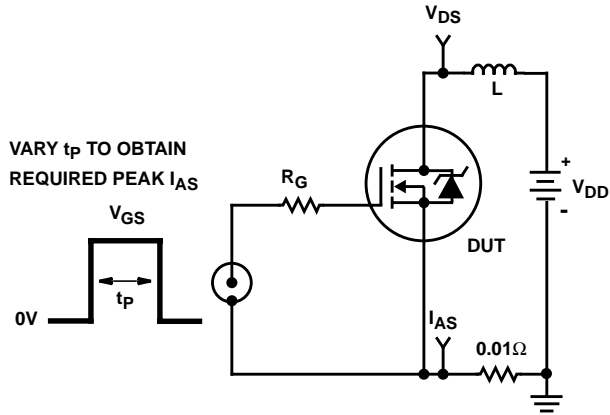

FIGURE 15. UNCLAMPED ENERGY TEST CIRCUIT
4.  $V_{DD} = 50\text{V}$ , starting  $T_J = 25^{\circ}\text{C}$ ,  $L = 9.2\text{mH}$ ,  $R_G = 25\Omega$ , peak  $I_{AS} = 10\text{A}$  (Figures 15, 16).